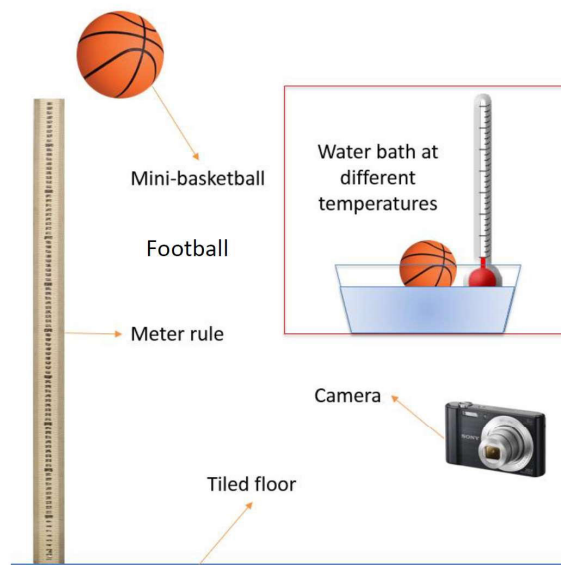

Figure 2: Setup
*Step 6. Use the ruler to measure a distance of 3cm downwards from the free end point of the cantilever in a perpendicular direction in relation to the position of the table, move the final part of the free end of the cantilever that distance with your finger as it is shown in Figure 2 and hold it at that point, being careful to not displace the fixed point from where it is. In this way, the initial amplitude of oscillation of the cantilever is controlled.”*
Using Logger Pro, and the videos obtained during the experiment, the values needed to calculate the coefficient of restitution, namely the height at which the ball is dropped and the height the ball bounces, can be extracted. As a meter rule was placed in the shot, this can be used as a scale on Logger Pro as to be able to obtain distance value, an example can be seen in figure 2.